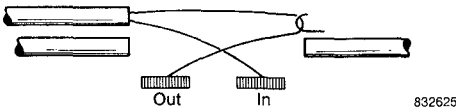

Fig. 126—Place load coil in base/body of module.
- d. Place load coil in base/body of 4000 module and crimp. See Figure 126.